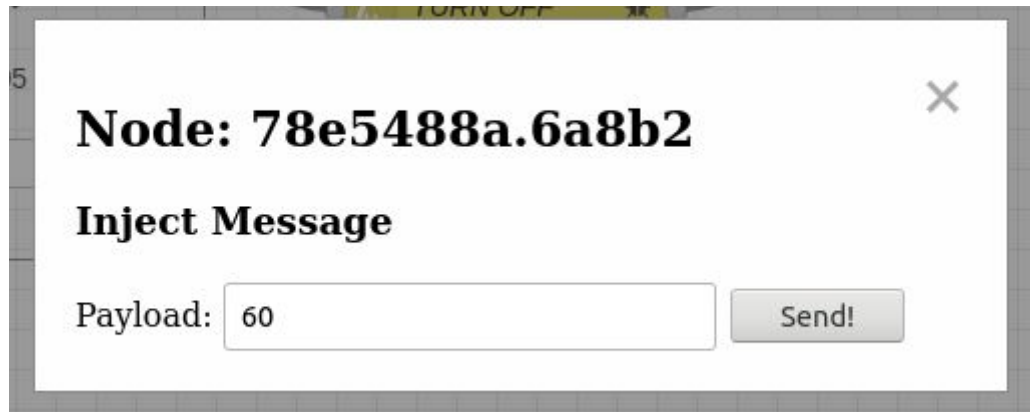

Figure 1.5
c) Inject Message - Allow inject a message to debug purposes, as shown in Figure 1.5.